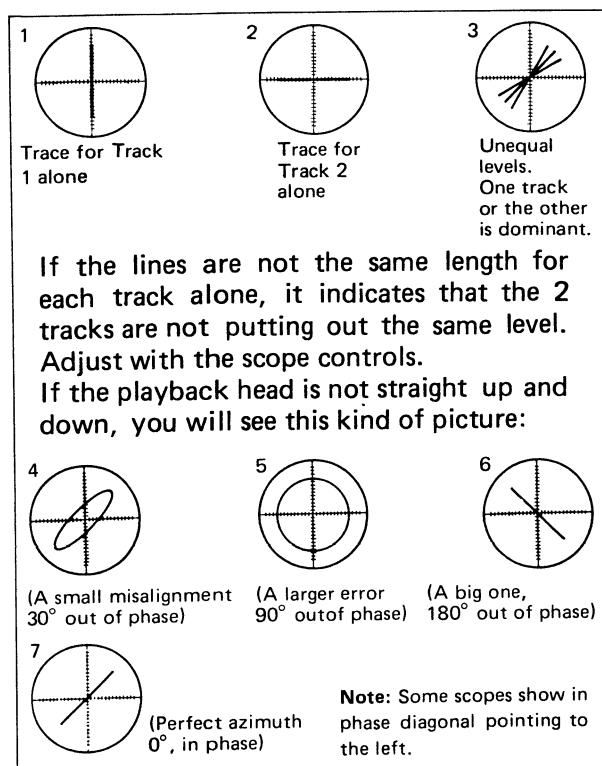

Fig. 2-11 Phase Shift
5. Load the reproduce alignment test tape to reproduce at high speed 15 ips (38 cm/sec). Then, a scope display reading showing phase relations between both channels will be obtained as shown in Fig. 2-11.